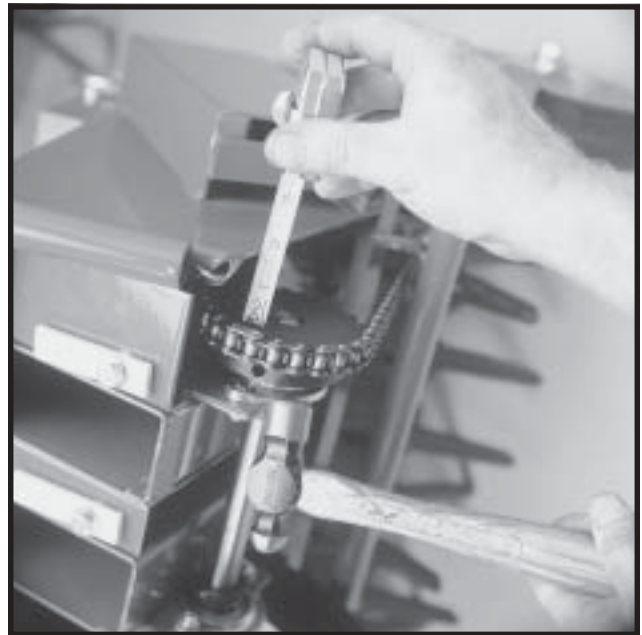

Figure 13
5. Inspect and align sprockets. (see Figure 13). Check set screws. (Double set screws for wheel and rotor sprocket).